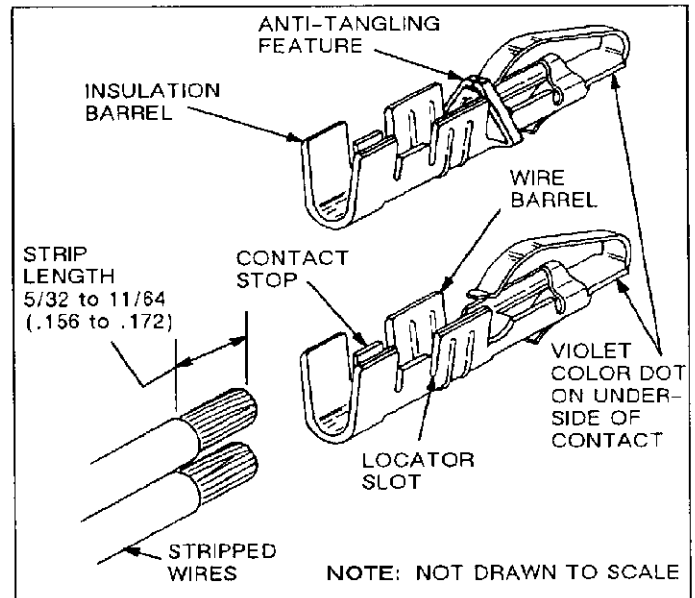

Fig. I-2
AMP Hand Crimping Tool 90031-8 is designed to crimp the AMP-LEAF* loose-piece (LP) contacts listed in Figure I-2. Contacts with the anti-tangling feature **MUST** be crimped in this tool. Read these instructions carefully before starting.
The contact locator positions the contact between the crimping dies. In use, it rests in the locator slot. See Figure I-2.
that the applicable loose-piece contacts have a violet color dot on the bottomsides. See Figures I-2 and I-3.
Refer to the chart in Figure I-2, and then select wire of the specified size and insulation diameter (note that the combined insulation diameter must not exceed 0.160 in.). Strip the wires to the length indicated — do NOT cut or nick the wire strands.
This tool is designed to crimp only the loose-piece contacts listed in Figure I-2. Do NOT use the tool to crimp single contacts that have been cut from a strip.